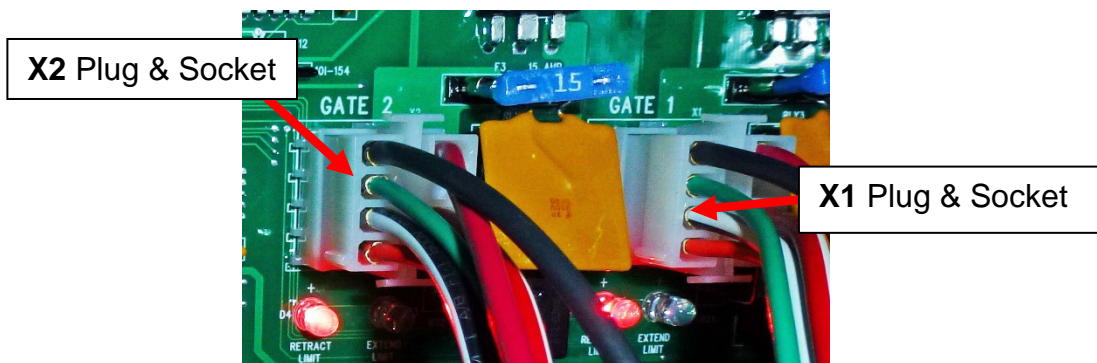

Figure 8 - Location of the X1 and X2 Plugs and Sockets
- 5.13 Gate 1 operates correctly, and Gate 2 fails to respond, remove the plug in X1 and mark it for identification then remove plug X2 and plug it into the vacant X1 socket (Figure 8).